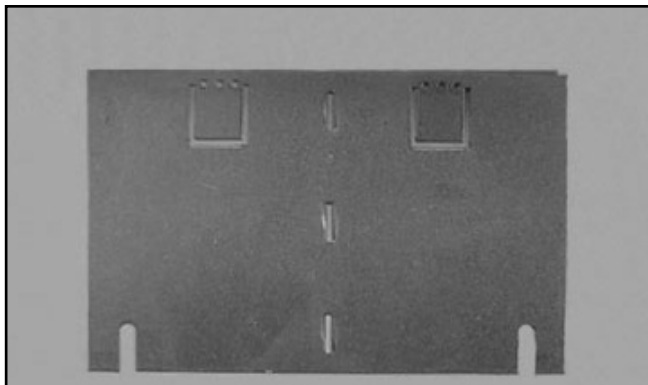
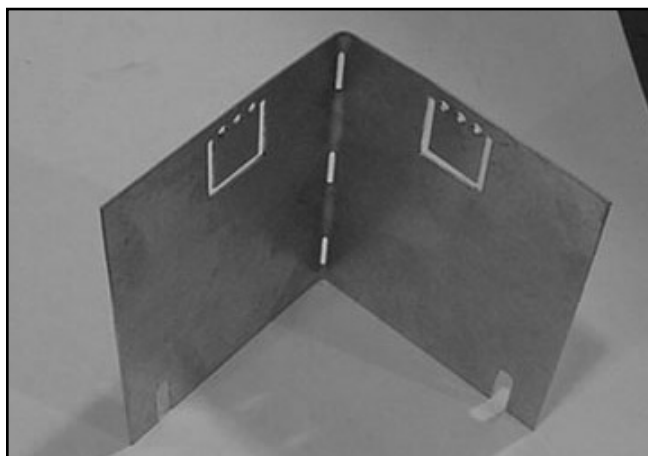

Figure 5.17 Flat Baffle
Figure 5.18 Baffle Bent to 90° Angle
2. Fold the baffle (Figure 5.17) to an approximate 90° angle (see Figure 5.18).